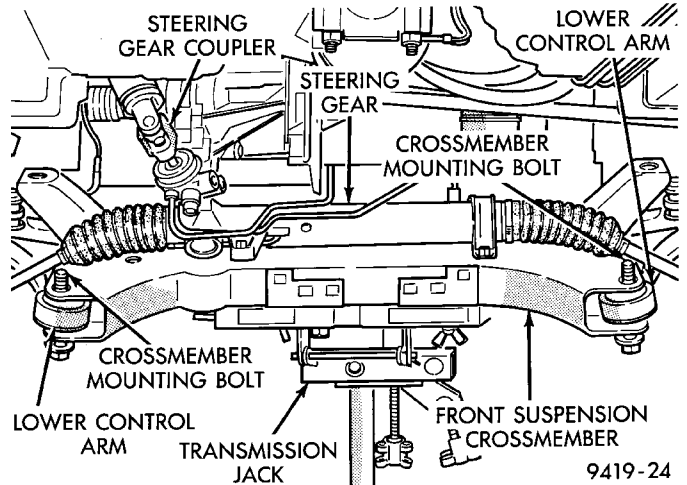

Fig. 14 Crossmember Lowered For Removal Of Steering Gear
(13) Using transmission jack, lower front suspension crossmember enough to allow steering gear to be removed from crossmember (Fig. 14). **When lowering front suspension crossmember, do not let crossmember hang from lower control arms weight of crossmember should be supported by transmission jack.**